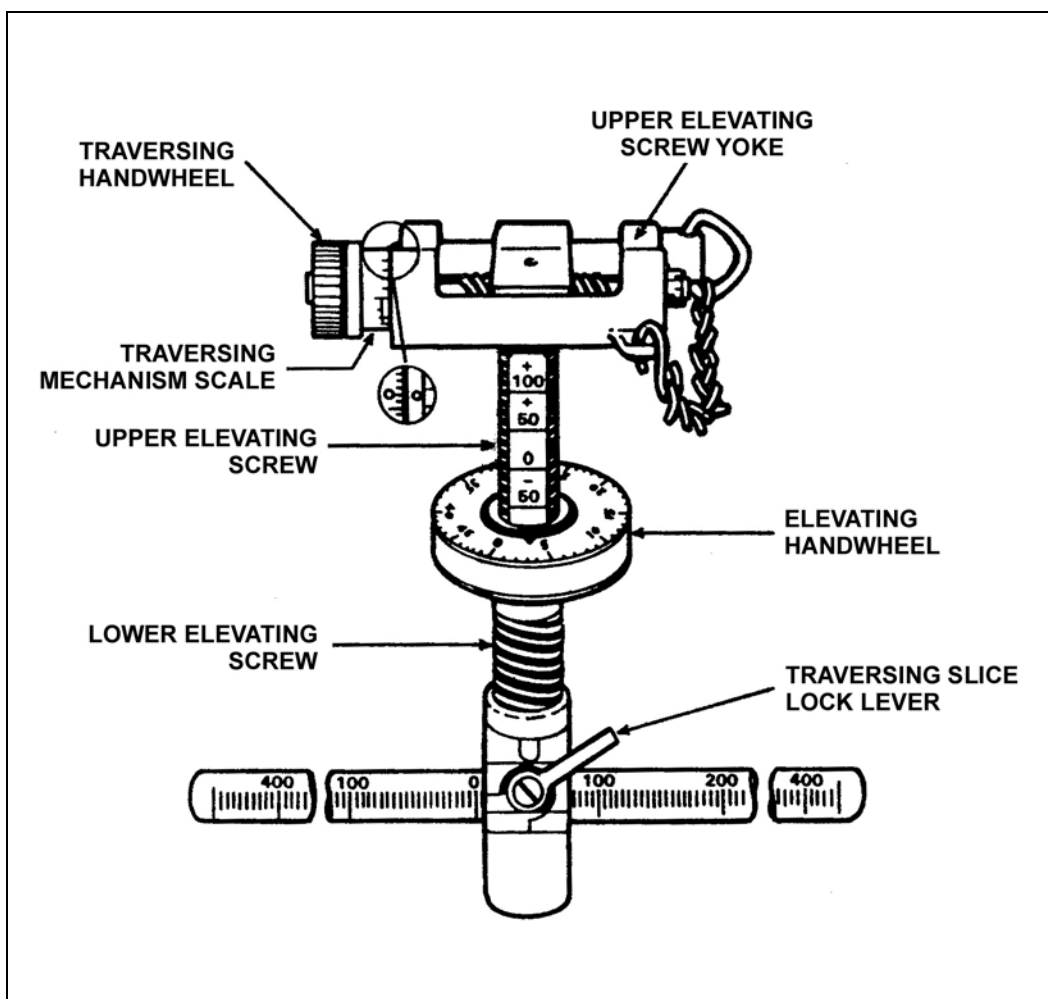

Figure 3-4. T&E mechanism.
(3) Lock the pintle lock release cam to secure the gun cradle. Check the gun cradle, by pulling up on it slightly, to ensure that it is seated and locked.
e. Attach the (traverse and elevating) T&E mechanism by following these procedures (Figure 3-4):
(1) Zero the T&E mechanism by zeroing the traversing handwheel, elevating handwheel, and the elevating mechanism sleeve to the lower elevating screw.